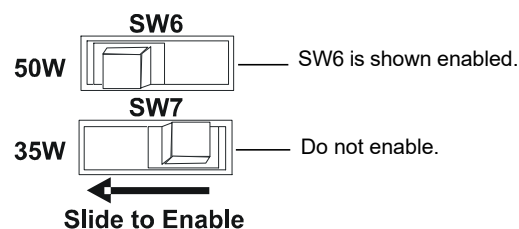

Figure 2.36 Enable Switches
5. Configure the slide switches, SW6 and SW7, per Figure 2.36. Do *not* use any other setting.
Note that the board is installed upside-down. Pay close attention when setting switches. Figure 2.36 shows the amplifier in its installed position, not the actual silk-screening on the board.